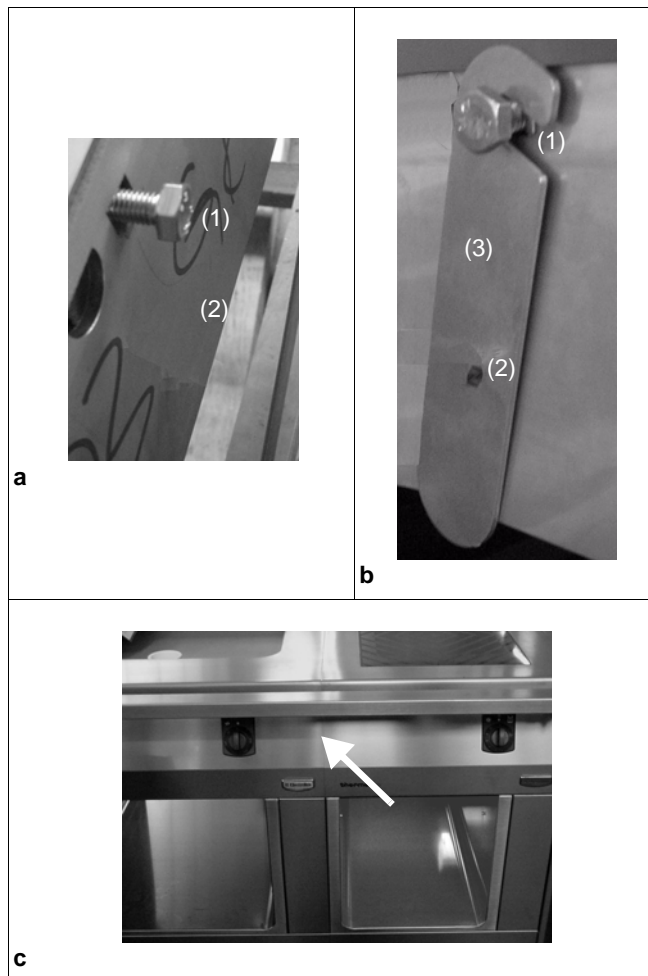
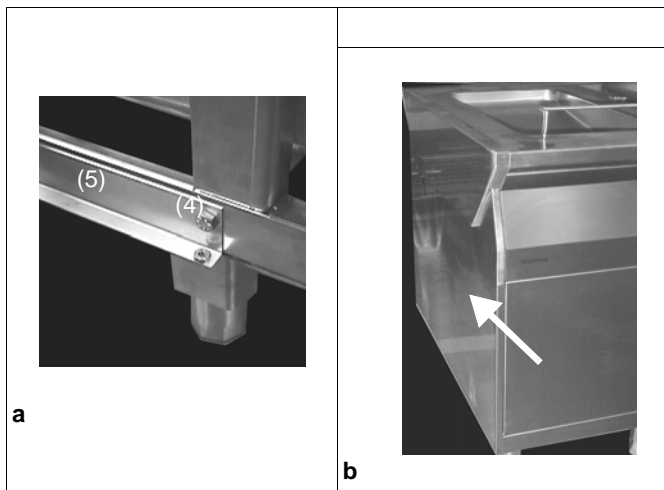

Fig.1 Lateral connection
Fig.2 Assemblage of sidewall
The assembly kit contains three of each of the following: caged nuts (1 / Fig.1) pre-assembled on the right-hand side of the appliance, hexagonal screws M8x25 (1 / Fig.1), bolts with retaining rings (2 / Fig.1) and mounting links (3 / Fig.1)
- ⇒ Insert the bolts with the retaining rings (2 / Fig.1) from outside into the guide in the right-hand connecting plate.
- ⇒ Keeping the screw (3 / Fig.1) loose, turn it until it is approximately 5 mm deep in the caged nut.
- ⇒ Push the appliances together so that the bolts (1 / Fig.1) engage in the guides of the appliance to be attached.
- ⇒ Fit the mounting link (3 / Fig.1) into the inside of the second appliance's left connecting plate.
The assembly kit contains two of each of the following: hexagonal screws M8x25 (1 / Fig.1), bolts with retaining rings (2 / Fig.1), mounting links (3 / Fig.1), hexagonal screws M8x16 with serrated washers and hexagonal nuts M8, hexagonal screws M5 with serrated washers (4 / Fig.2) and a fastening angle (5 / Fig.2).
- ⇒ (4 / Fig.2).